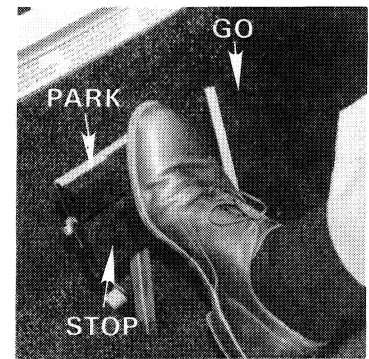
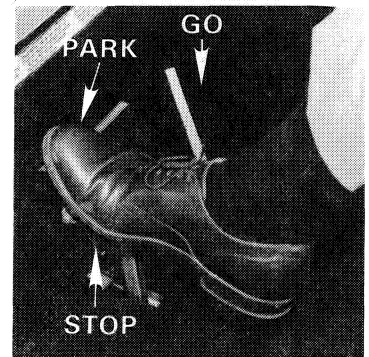

Figure 5
Figure 6
**Brake Pedal** - The brake pedal is the large pedal on the left with the word "STOP" molded in it (See Figure 5). To slow or stop the vehicle, push the brake pedal with your right foot.
**Parking Brake Pedal** - The parking or park brake pedal is the small raised portion in the upper left corner of the brake pedal with the word "PARK" molded in it (See Figure 5). The words "Park Brake" are marked above this pedal. To set the park brake, push the brake pedal and tilt the park brake portion of the pedal forward with right foot. (See Figure 6)